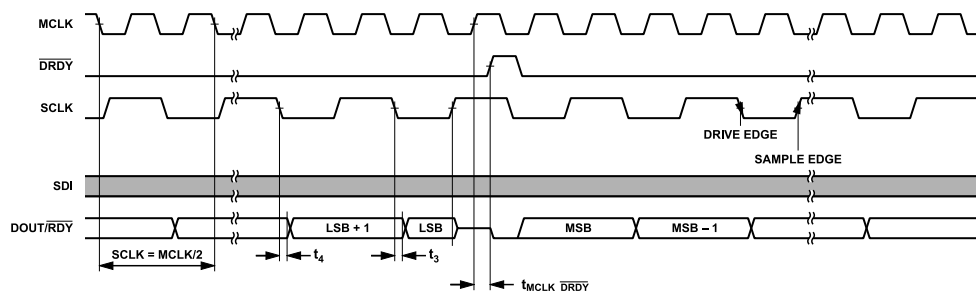

Figure 153. Recommended Interface for Reading Conversions, SPI Control, Continuous Readback Mode
The ADAQ7768-1 interface is flexible to allow the many modes of operation and for data output formats to work across different DSPs and microcontroller units (MCUs). To achieve maximum performance, Figure 153 show the recommended interface configuration
Figure 153 shows how the recommended interface operates. The data read back spans the entire length of the  $\overline{DRDY}$  period and the LSB remains until  $\overline{DRDY}$  goes high for the next conversion.
2. Generate SCLK based on the  $\overline{DRDY}$  or  $\overline{RDY}$  timing. SCLK is high when the  $\overline{DRDY}$  signal goes high and transitions on the MCLK falling edges (see Figure 153) to ensure that the LSB can be read correctly as the DOUT/ $\overline{RDY}$  output is reset on the  $\overline{DRDY}$  rising edge. However, SCLK rising occurs before this transition.
Because the full ODR period is for clocking data, the  $\overline{RDY}$  signal no longer flags after each LSB outputs. This signal only flags if the ADAQ7768-1 is in the continuous readback mode, or if the ADAQ7768-1 does not count 32 SCLKs within  $1 \times t_{MCLK}$  before  $\overline{DRDY}$ , as shown in Figure 153.